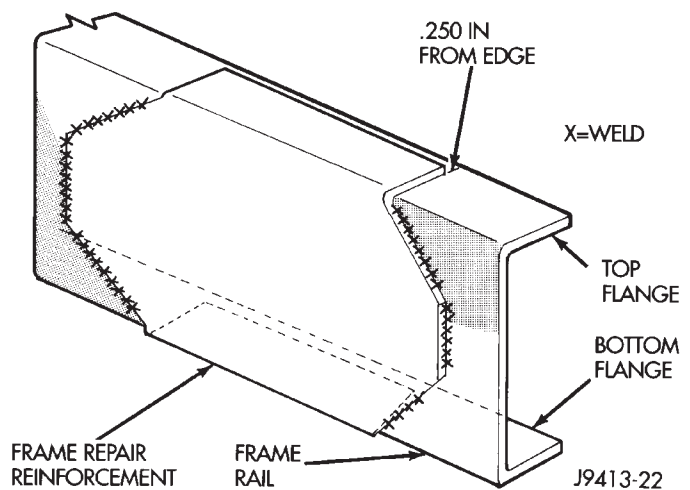

Fig. 3 Frame Reinforcement
- (1) Drill a hole at each end of the crack with a 3 mm (0.125 in.) diameter drill bit.
- (2) Using a suitable die grinder with 3 inch cut off wheel, V-groove the crack to allow 100% weld penetration.
- (3) Weld the crack.
- (4) If necessary when a side rail is repaired, grind the weld smooth and install a reinforcement channel (Fig. 3) over the repaired area.
NOTE: If a reinforcement channel is required, the top and bottom flanges should be 0.250 inches narrower than the side rail flanges. Weld only in the areas indicated (Fig. 3).